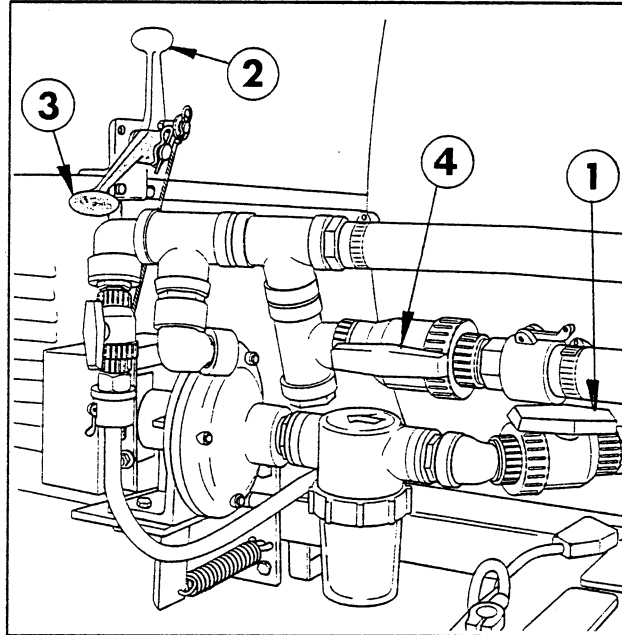

FIG. 4.
1. Fill the Tank with water and open the Suction Line Valve. See FIG. 4.